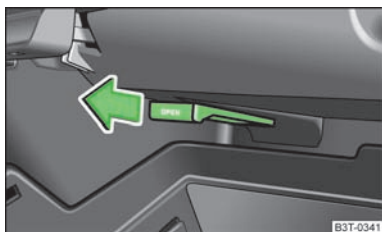

Fig. 89
- Open the air supply by pulling the lever in the direction of the arrow » Fig. 89.